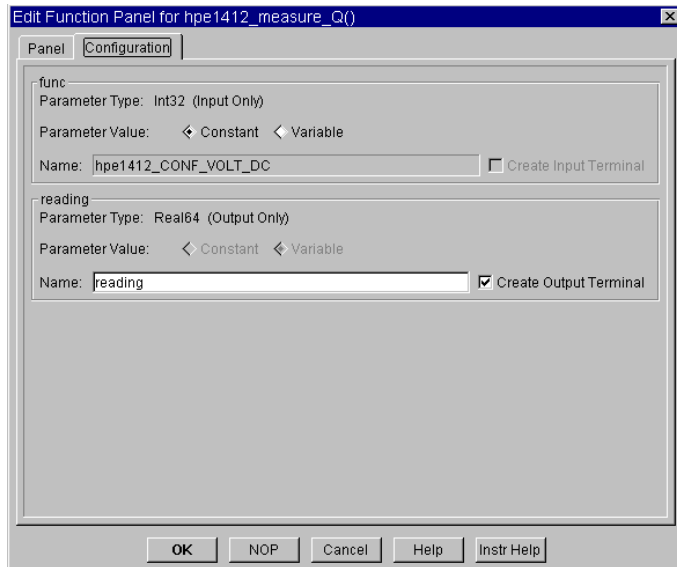

Figure 111 Configuration Folder in Edit Function Panel
- 8 In the To/From Instrument object, double-click to add a function and select Take Measurement under Measure. Click on the Configuration folder to display the dialog box shown in Figure 111.